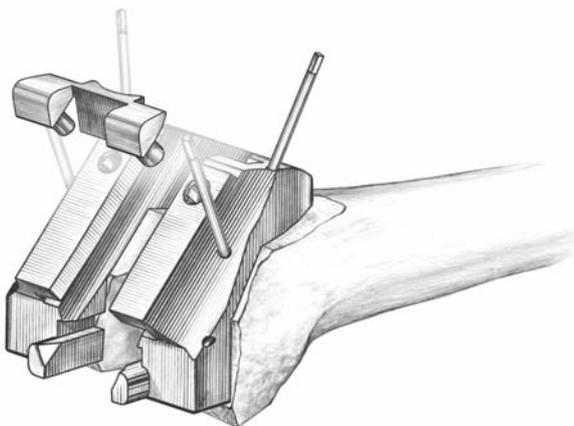

Figure 26
- ▶ Guide the pegs of the modular Notch Saw Guide into the anterior holes on the Notch Block (Figure 26).